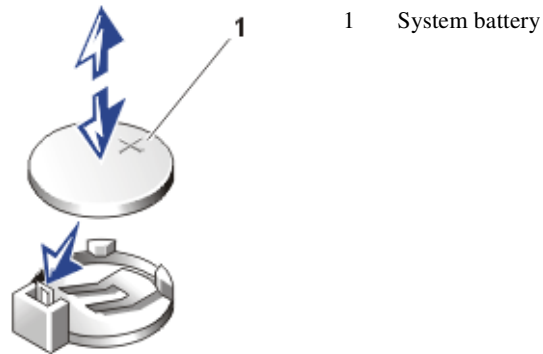

Figure 4-9: Replacing the System Battery
4. Install the new system battery with the side labeled “+” facing up (see Figure 4-9).